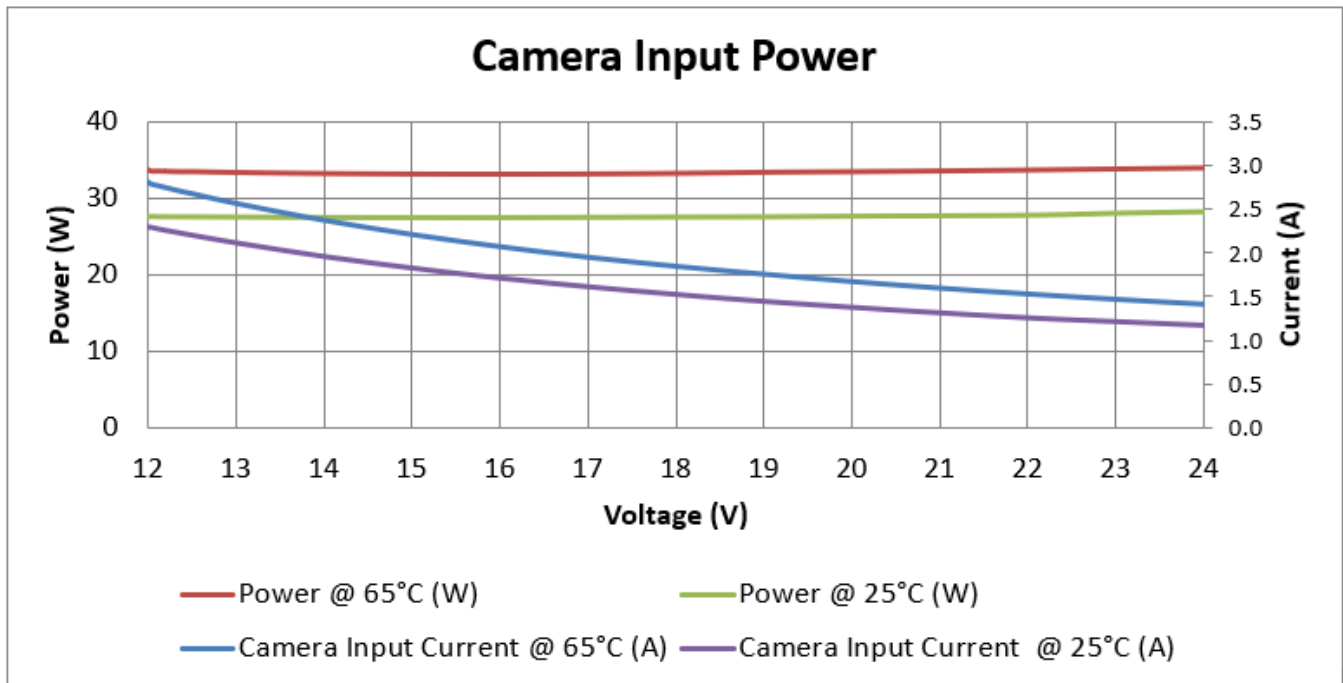

Figure 1: Power and Temperature*
1. Power dissipation increases with temperature. See Figure 1: Power and Temperature.